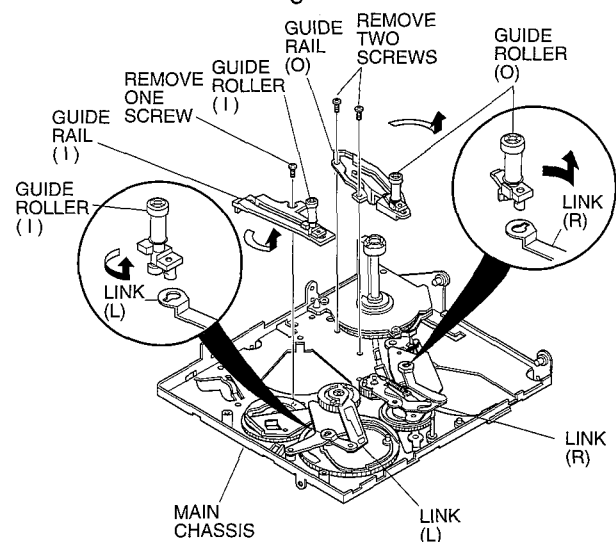

Fig.2-11
■ Guide Rail (I), Guide Roller (I)
- (1) Remove 1 screw. (See Fig. 2-11)
- (2) Turn guide rail (I) with guide roller (I) in the direction of the arrow (in parallel with the main chassis), to release guide roller (I) from link (L).
- (3) Move guide roller (I) in the loading direction to remove it from guide rail (I).
■ Guide Rail (O), Guide Roller (O)
- (1) Remove 2 screws. (See Fig. 2-11)
- (2) Turn guide rail (O) with guide roller (O) in the direction of the arrow (in parallel with the main chassis), to release guide roller (O) from link (R).
- (3) Move guide roller (O) in the loading direction to remove it from guide rail (O).